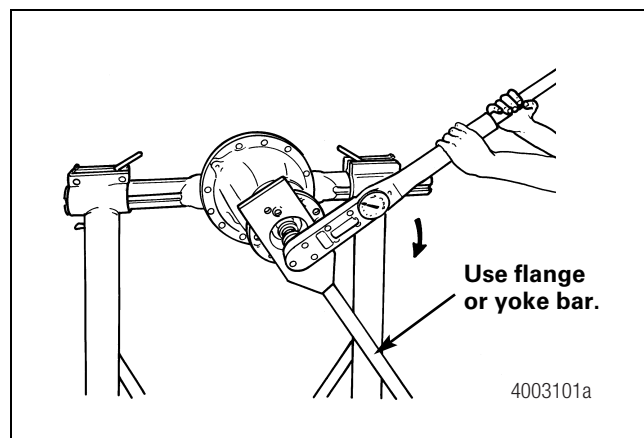

Figure 4.20
2. Place a flange or yoke bar into position. Tighten the pinion shaft nut to 885-1032 lb-ft (1200-1400 N•m). Figure 4.20.